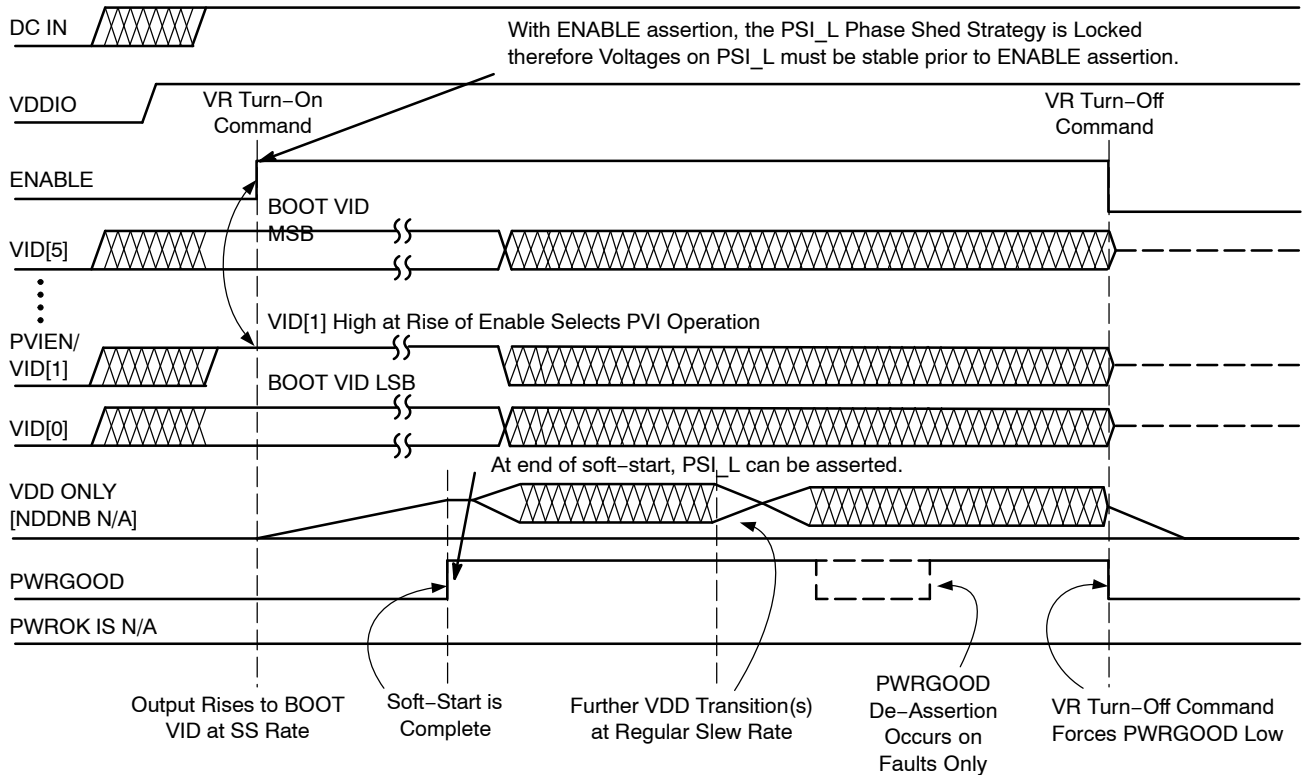

Figure 9. Power Up Sequences in Parallel Mode Operation
PVI is a 6-bit wide parallel interface to address the CORE Section reference. NB is kept in HiZ mode. Parallel mode operation is depicted in Figure 9. Voltage identifications for the 6bit AMD mode is given in Table 2.
- The NCP5393B will accept new VID codes on the parallel VID interface (See Table 2). See Figure 9 for details.